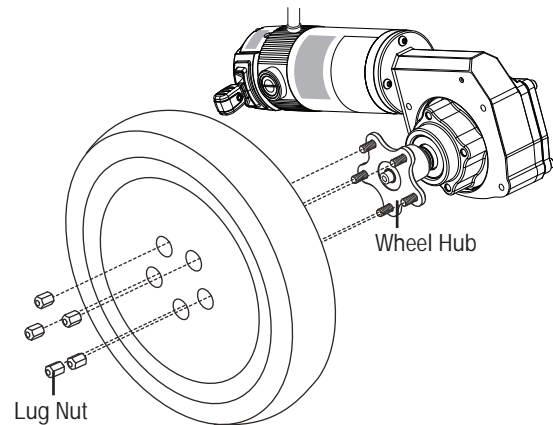

Figure 9. Quantum 4Front Series Drive Wheel
4. Remove the five (5) lug nuts from the wheel hub. **See figure 9.**